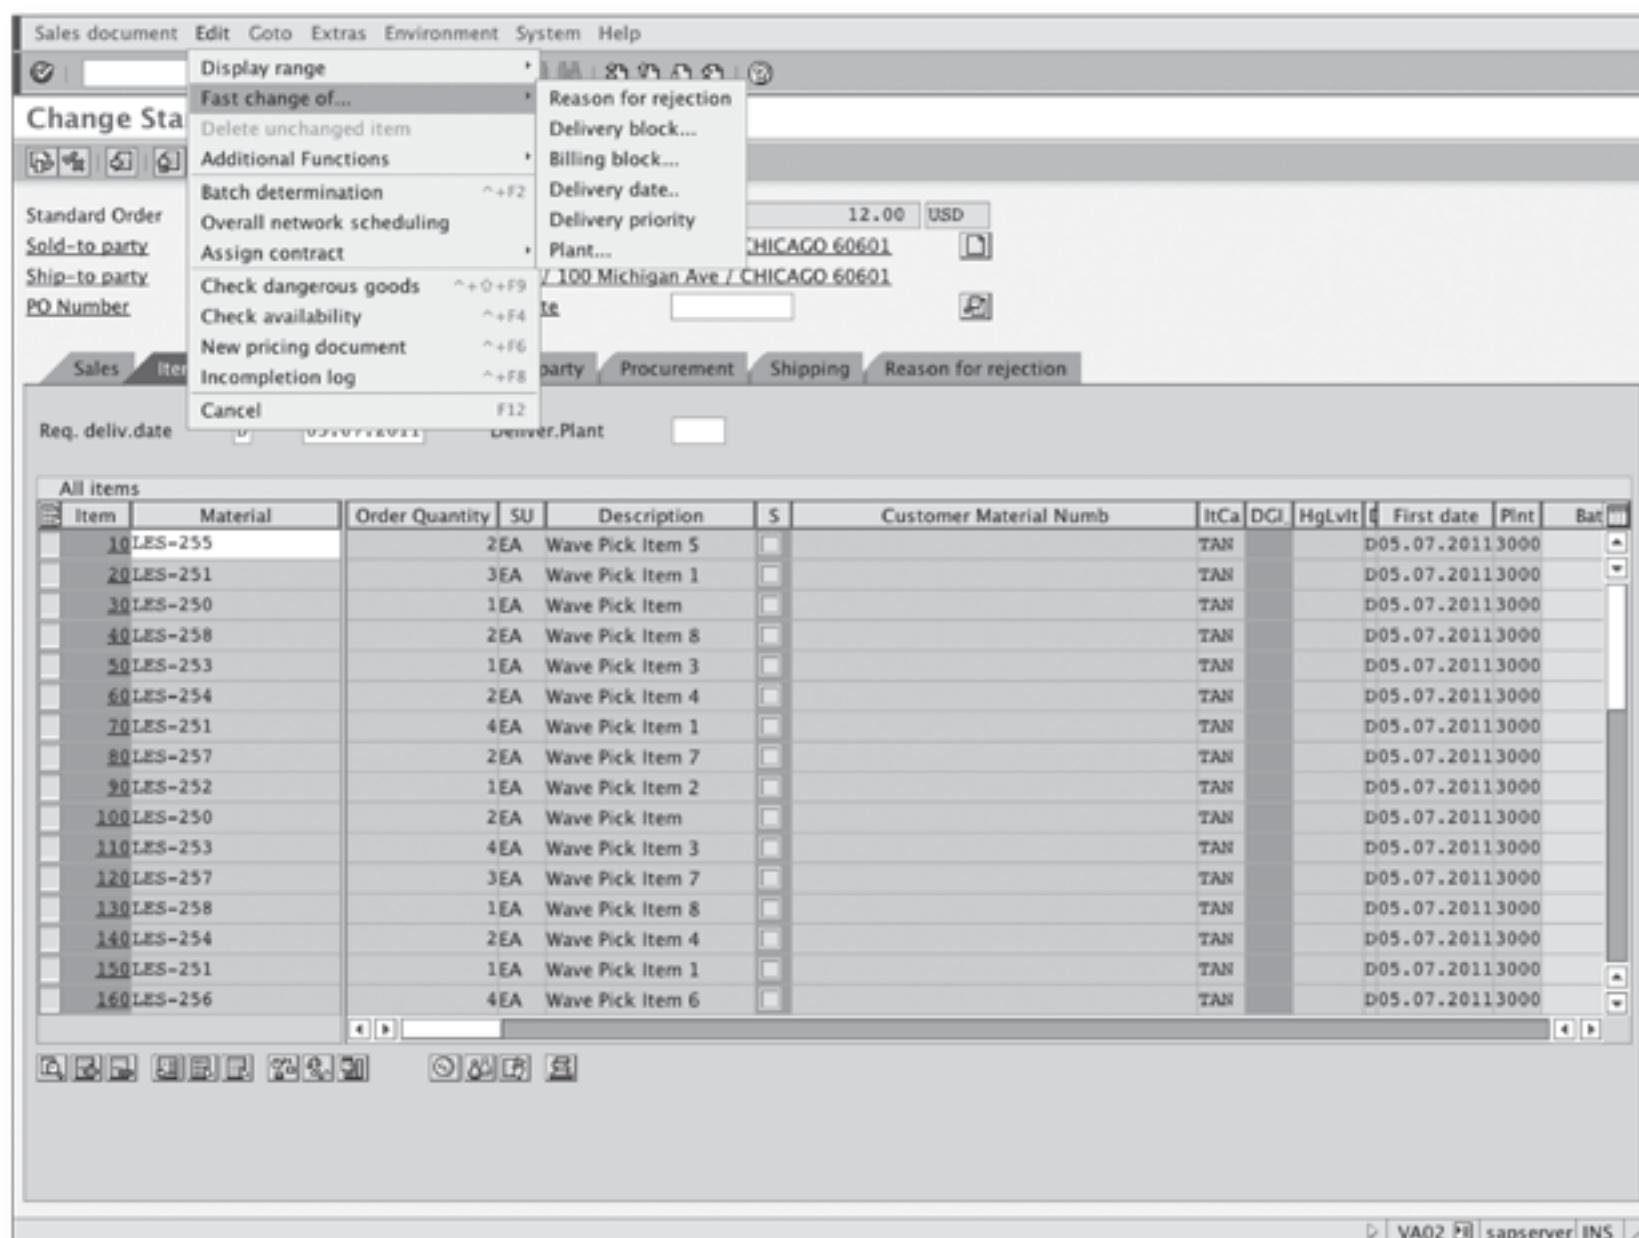

Figure 1 Change Order Item Screen with Fast Change of... Menu
Here you'll see a few different options, and each will lead you to a different sub-screen as shown in Figure 1. Note that the data you enter will apply to all of the items you select, so choose the items carefully.
On the initial screen of the transaction (see Figure 1), specify the following:
- ▶ MATERIAL NUMBER (or a range you want to process): To see all backorders, simply enter material range covering all of your material numbers. In first box enter 0 and in the second box enter ZZZZZZZZZZ. See Figure 1 for initial screen details.